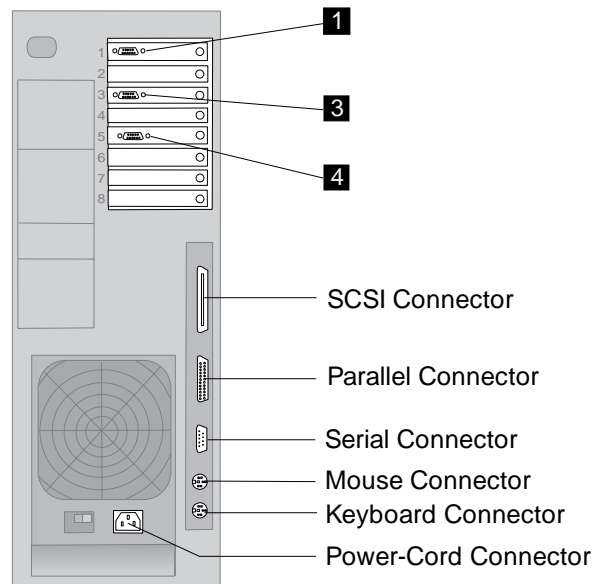

Figure 1-60. Slot Allocation
14. ____ **Plug** the external cables in the following slots (see Figure 1-60):